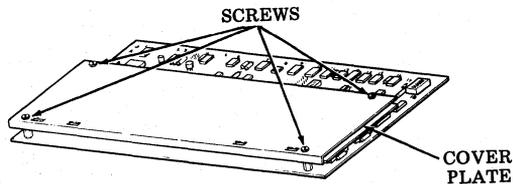

Fig. 29—40C303AC/003 Controller Assembly
7.02 Controller Assembly (Fig. 29) (if controller is removed for reoptioning):